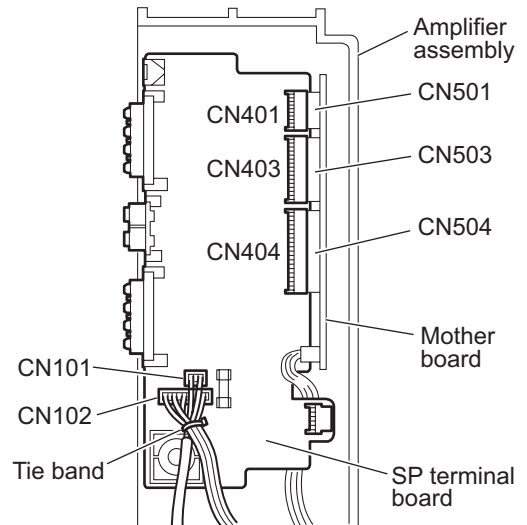

Fig.5
- (2) Disconnect the connectors **CN401**, **CN403** and **CN404** on the SP terminal board from the connectors **CN501**, **CN503** and **CN504** on the mother board while lifting the SP terminal board upward. (See Fig.5.)
- (3) Take out the SP terminal board from the amplifier assembly.